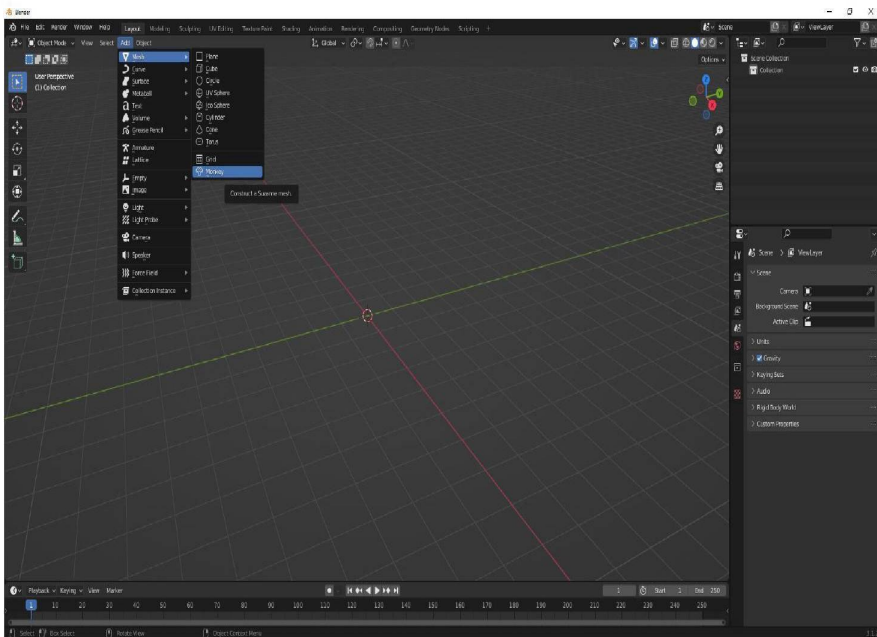

Figure 2.6: Selecting Add > Mesh > Monkey will add the 3D Blender mascot Suzanne to the scene
4. Click **Add** from the menu in the upper left of the **3D Viewport**, or **Shift + A** anywhere inside it, and select **Mesh > Monkey** from the menu, as shown in Figures 2.6: